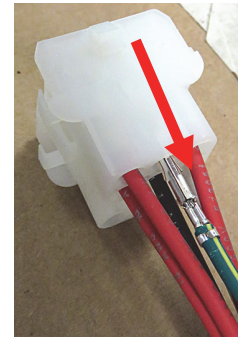

Figure 3
5. Using a pin pusher remove the green/yellow strip ground wire from pin 2 of the new supplied harness (see Figure 3).